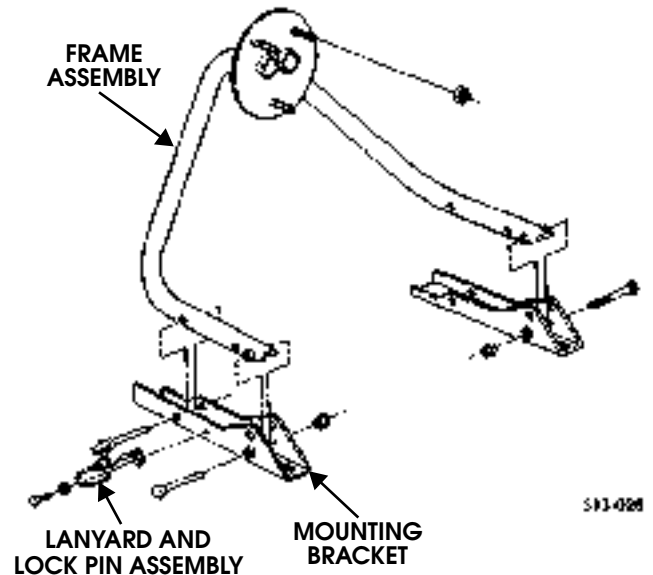

Figure 13-30: Frame Assembly Mounting
4. Remove self-tapping screws, lockwashers, and lanyard/lock pin assemblies from mounting brackets (Figure 13-30).
3. Install frame assembly on mounting brackets with bolts and locknuts (Figure 13-30).